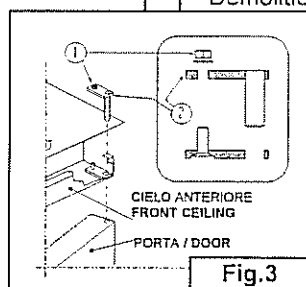

Fig.3
-Per estrarre la porta (Fig.3), togliere il dado Pos.1, e la piastra Pos.2
-To remove the door from its housing (Fig.3), unscrew the bolt Pos. 1 and remove the plate Pos. 2.